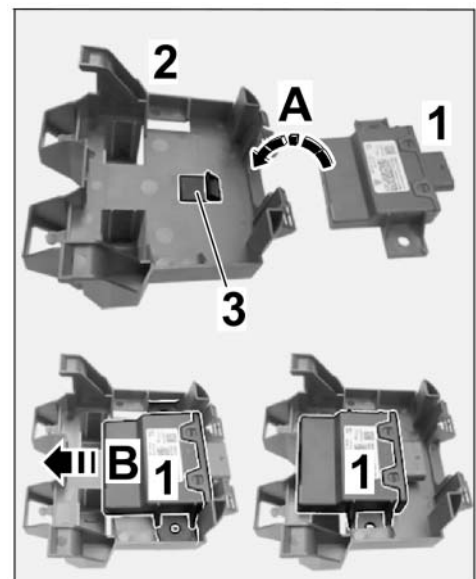

Figure 13
2.4 Insert new engine noise control unit at the underside in the control unit holder. ⇒ *Figure 13-A-*
2.5 Push the engine noise control unit in the holder to the opposite side of the plug connection (⇒ *Figure 13-B-*), until the control unit is engaged in the holder.